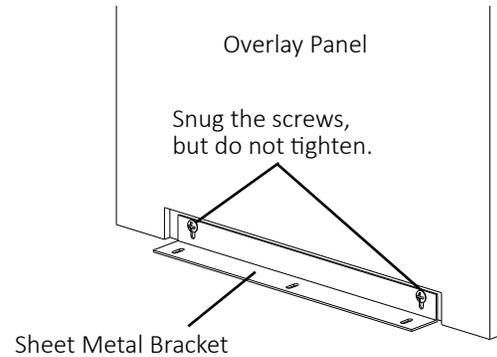

Fig. 13
1. Fasten the sheet metal bracket to the overlay panel using the two M4x8 truss head screws provided. Snug the screws, but do not tighten (See Fig. 13).